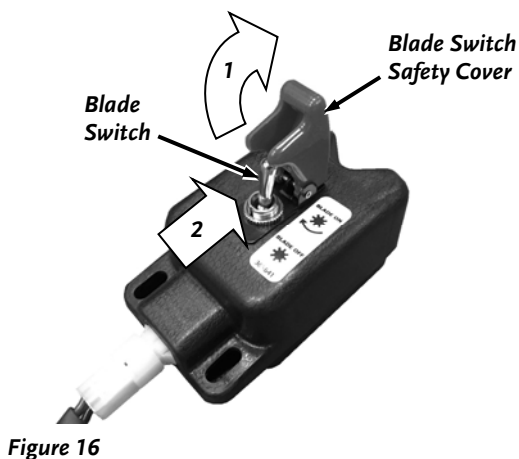

Figure 16
1. Engage the Blades by pulling up on the Blade Switch Safety Cover and pushing forward on the Blade Control Switch (**Figure 16**).
1. Push down on the Blade Switch Safety Cover (**Figure 16**).